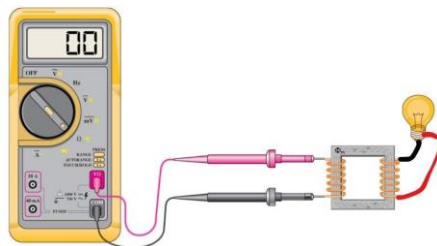

Fig. 3.31 Measurement of input voltage in the primary side of the Transformer
Step 3. Measure the voltage using a multimeter at the primary and secondary winding. Figure 3.31 illustrates the measurement at input side of transformer